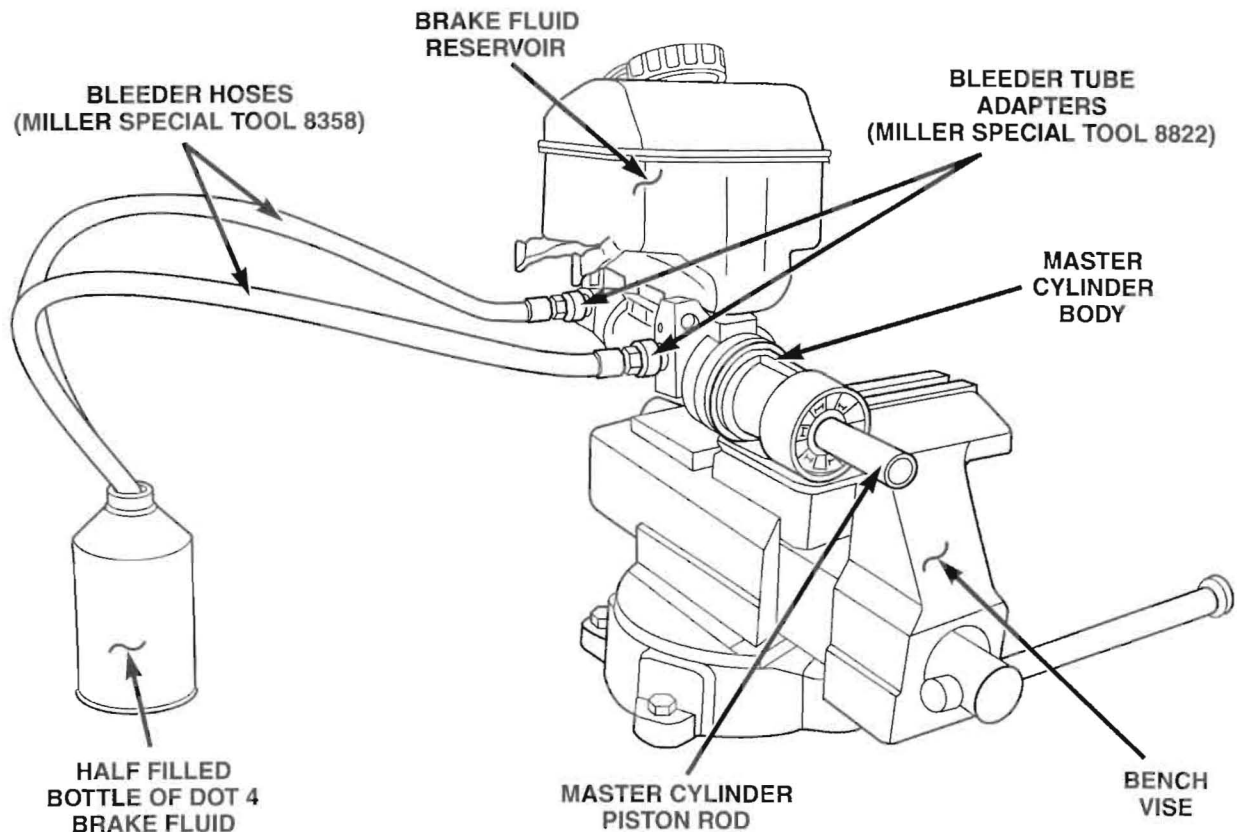

Figure 4
- a. Mount the master cylinder in vise (Figure 4).
- b. Attach bleeder tube adapters (Miller Special Tool 8822) into the fluid ports on the master cylinder body (Figure 4).
- c. Install bleeder hoses (Miller Special Tool 8358) to the adapters that were installed in Step 11b (Figure 4).
- d. Place the open end of the bleeder hoses into a half filled bottle of DOT 4 brake fluid (Figure 4). Be sure that the hose ends are totally submerged in brake fluid.